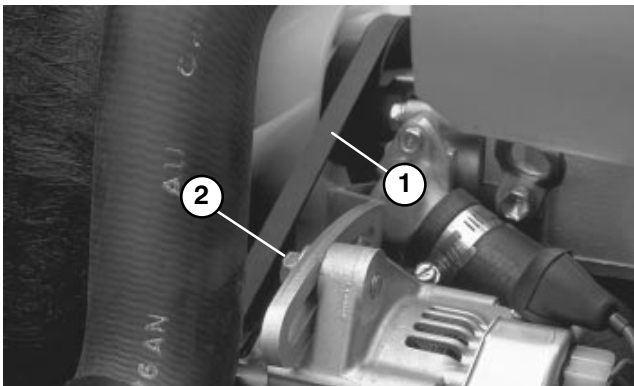

Figure 31
2. Loosen bolt securing brace to engine and bolt securing alternator to brace (Fig. 31).
1. Loosen bolts securing brace to engine and alternator to brace (Fig. 31).